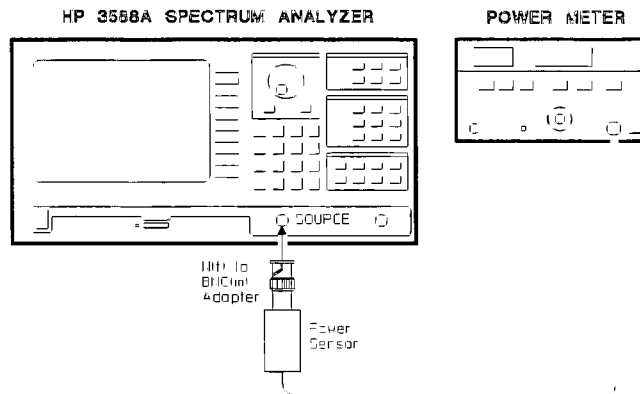

Figure 3-12. High Frequency Response Setup
3. Connect the test equipment as shown in figure 3-12.